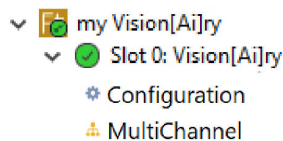

Figure 77 - Opening the MultiChannel Page in DashBoard
- In the DashBoard tree, expand the Vision[Ai]ry node and the **Slot 0** node fully, and then double-click **MultiChannel** (Figure 77).